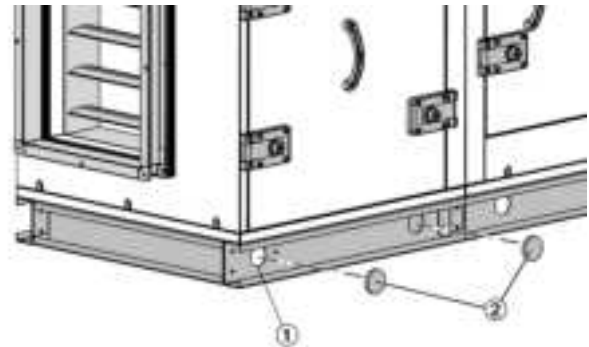

Fig. 24: Fitting plugs
- ▶ Seal the transport openings (Fig. 24 /1) in the base frame of the air handling unit with the plugs (Fig. 24 /2) provided.